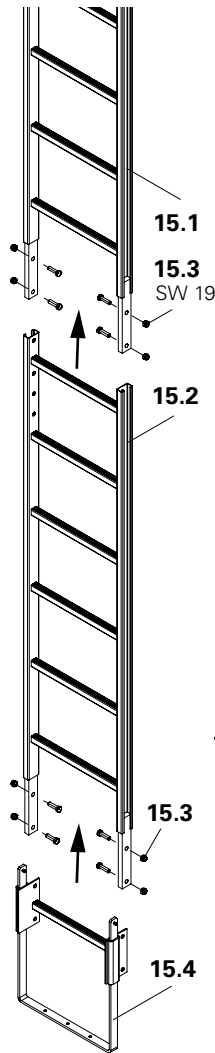

Fig. B1.48
2. Connect Ladders with bolts M12 x 40, SW 19 (15.3). (Fig. B1.48)
3. Mount Ladder Base 30 (15.4) using bolts M12 x 40 (15.3). (Fig. B1.48)